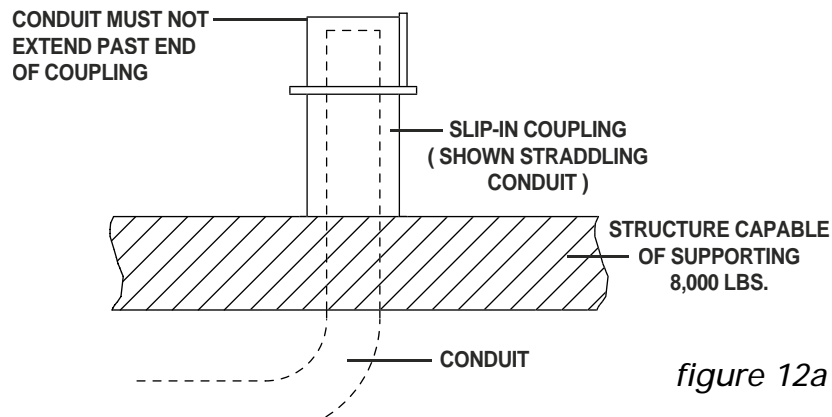

figure 12a
2. Place the coupling over the conduit. The conduit must NOT extend past the end of the coupling. (See *Figure 12a.*)